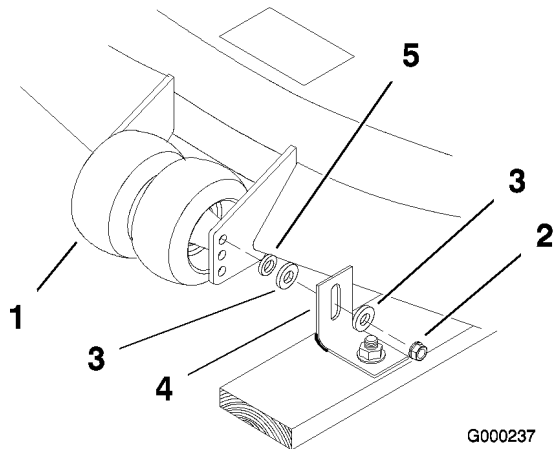

Figure 3
1. Remove the center gage wheel nut, 2 large washers, angle bracket and 1 small washer (Figure 3). Discard the 2 large washers and the angle bracket.